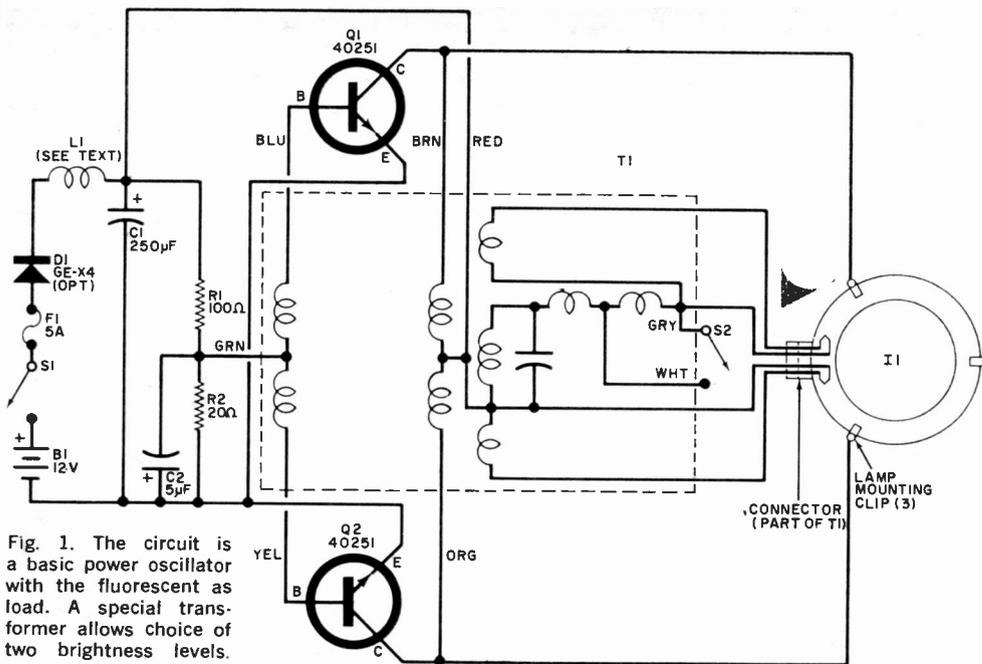
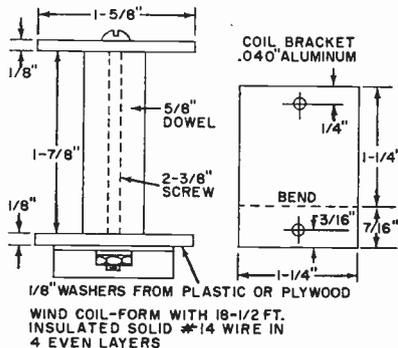

Fig. 1. The circuit is a basic power oscillator with the fluorescent as load. A special transformer allows choice of two brightness levels.
Fig. 4. Construction data for L1. Plastic tape can be wound over coil to keep it from unravelling during mounting.
page 116 and a schematic in Fig. 1. Although almost any type of construction can be used, Fig. 2 and the photos illustrate the method used by the author. To duplicate this version, fabricate the wood and metal parts as shown. Note that there are two electrically isolated metal chassis, one for each power transistor. When drilling the holes for these transistors, make sure that both the base and emitter holes are large enough to prevent short circuits. Each transistor can be mounted directly on its chassis without using insulated mounting kits,
Construct inductor *L1* in accordance with Fig. 4. Using the photos as a guide, assemble all components in the cabinet and wire in accordance with Fig. 1. Note that the two "hot" lamp clips are connected automatically to their respective
*L1*—see text and Fig. 4